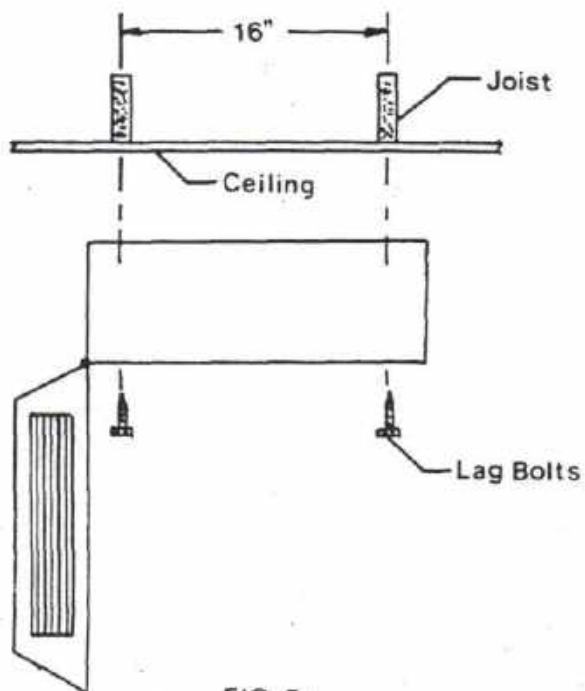

FIG. 5
- 3) Locate four mounting points (each being at a joist) and pre-drill holes into the joist and unit housing as shown in Fig. 5.
- 4) Lift unit to ceiling and secure using four 1/4" X 2 1/2" lag bolts as shown in Fig. 5.